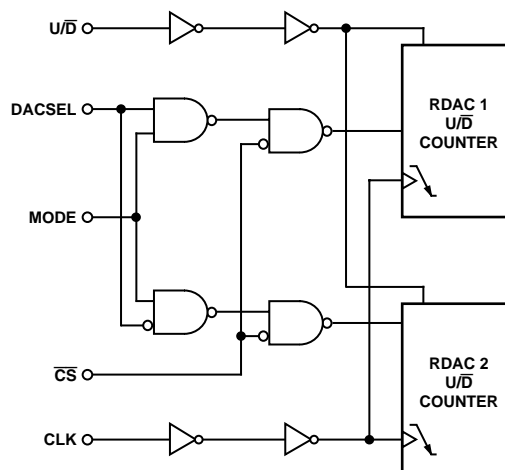

Figure 30. Detailed Digital Logic Interface Circuit
The AD5222 contains a push-button controllable interface. The active inputs are clock (CLK), \overline{CS} and up/down (U/ \overline{D}). While the MODE, and DACSEL pins control common updates or individual updates. The negative-edge sensitive CLK input requires clean transitions to avoid clocking multiple pulses into the internal UP/DOWN counter register, Figure 30. Standard logic families work well. If mechanical switches are used for product evaluation a flip-flop or other suitable means should debounce them. When \overline{CS} is taken active low, the clock begins to increment or decrement the internal up/down counter, dependent upon the state of the U/ \overline{D} control pin. The UP/DOWN counter value (D) starts at 40_H at system power ON. Each new CLK pulse will increment the value of the internal counter by 1 LSB until the full-scale value of $7F_H$ is reached, as long as the U/ \overline{D} pin is logic high. If the U/ \overline{D} pin is taken to logic low, the counter will count down, stopping at code 00_H (zero-scale). Additional clock pulses on the CLK pin are ignored when the wiper is at either the 00_H position or the $7F_H$ position. The detailed digital logic interface circuitry is shown in Figure 30.